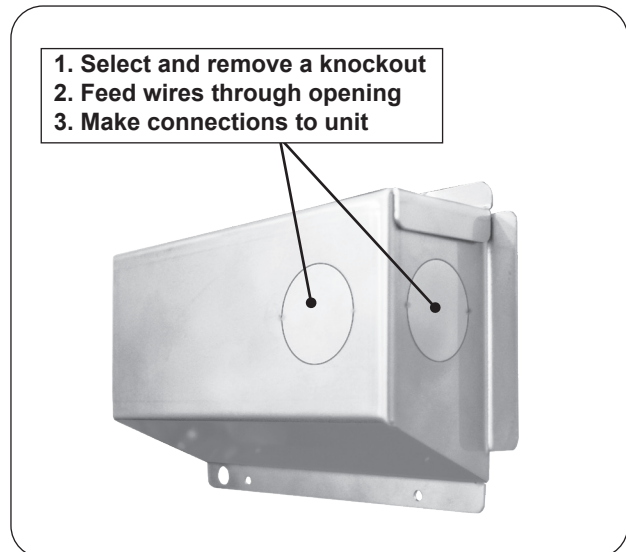

Fig. 24-1 Junction box knockouts
2. Remove the junction box located on the rear of the unit. Select and remove a knockout from the junction box that will best suit your electrical setup. Route the wiring through the selected knockout opening. See Fig. 24-1.